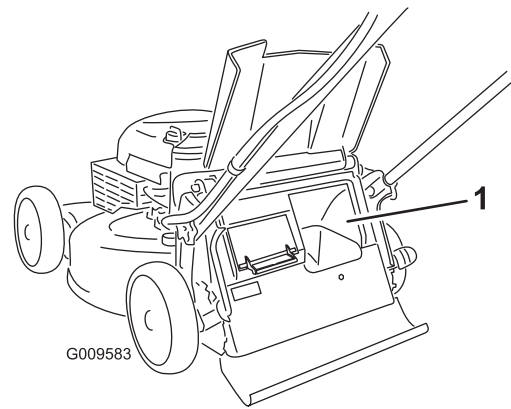

Figure 20
**Important:** For proper operation, remove any grass clippings and debris from the bag-on-demand door and the surrounding opening (Figure 20) before you move the bag-on-demand lever from one position to another.